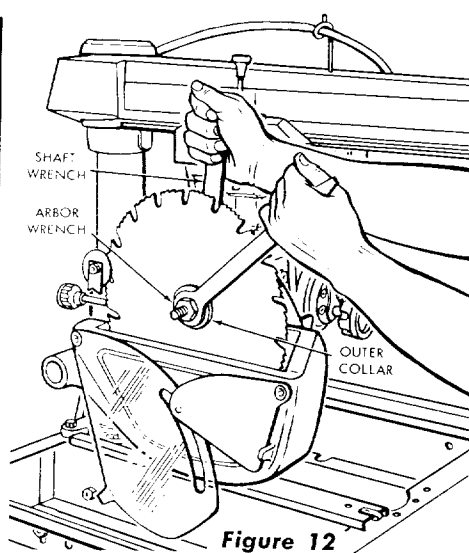

Figure 12
- Place the arbor wrench on the shaft nut and the shaft wrench on the hex portion of motor shaft just inside the saw blade. (See figure 12.)
- Hold the shaft wrench and rotate the arbor wrench downward to loosen the shaft nut. The motor shaft has left-hand threads. (See figure 12.)